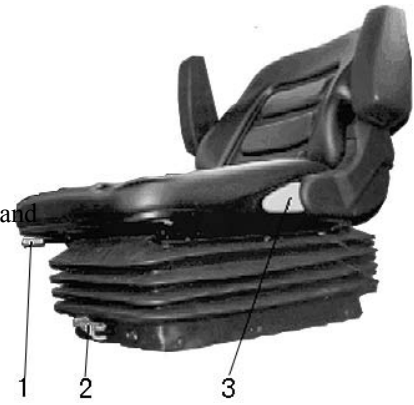

Figure 2-20
- Adjust the seat position (figure 2-20) and the tilt of the panel of instruments (figure 2-21) to increase comfort of driving.